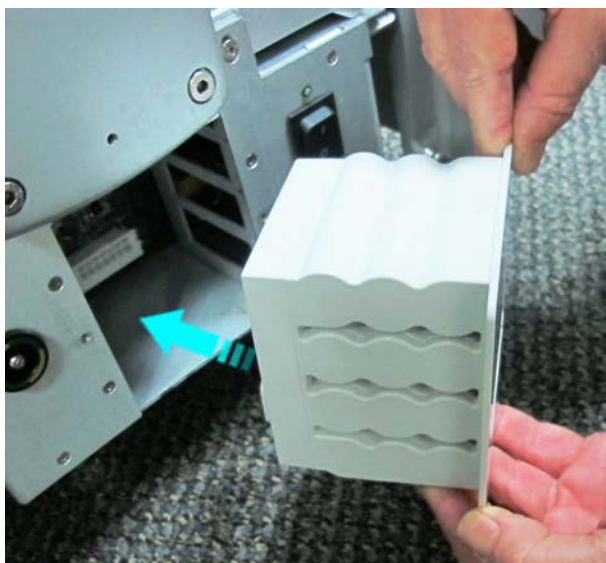

Figure 8-177 Installation of Battery in AC Distribution Box Compartment
- 1) Insert a replacement battery into the battery compartment as shown in Figure 8-177 below.